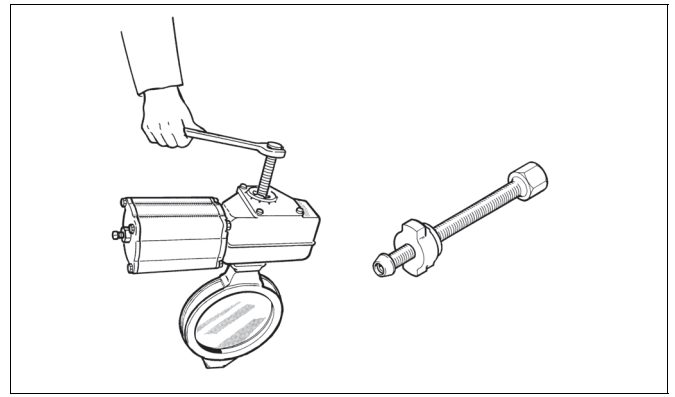

Fig. 18 Removing the actuator with an extractor
- Detach the actuator using a suitable extractor. The correct tool can be ordered from the manufacturer (see Fig. 18).